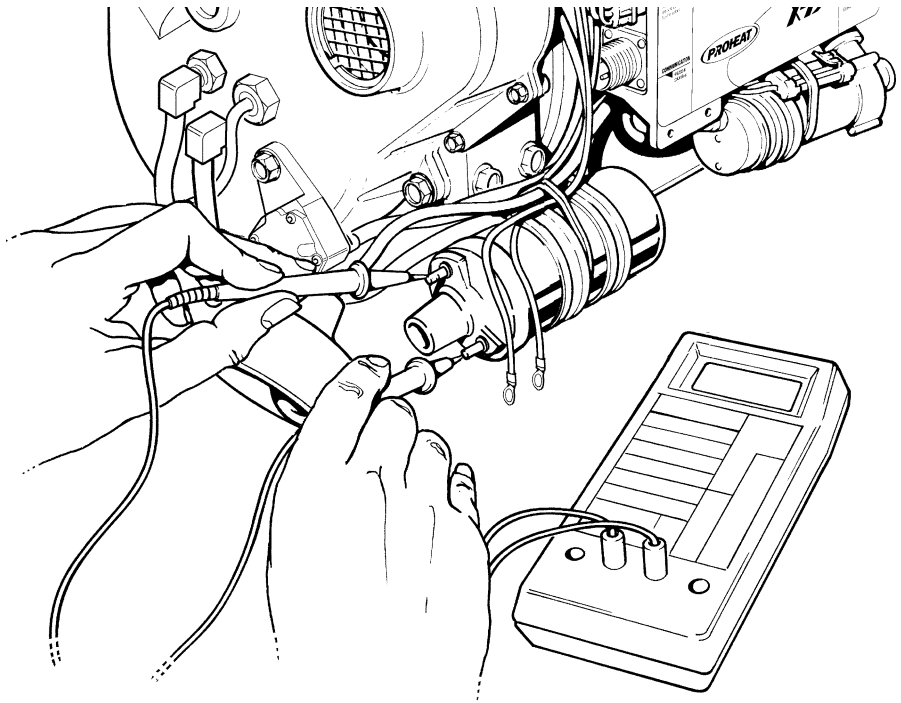

Figure 5-23 Ignition Coil Test
- b) Test coil. (Figure 5-23.)